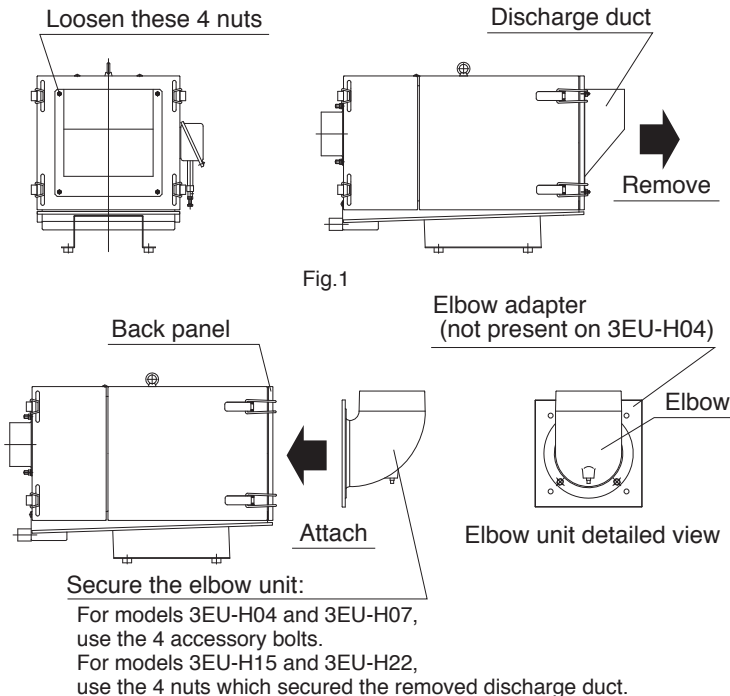

Fig.2
- ② Secure the elbow unit to the back panel. For models 3EU-H04 and 3EU-H07, this is done by using the 4 accessory bolts. For models 3EU-H15 and 3EU-H22, use the 4 nuts which secured the removed discharge duct (see Fig.2).